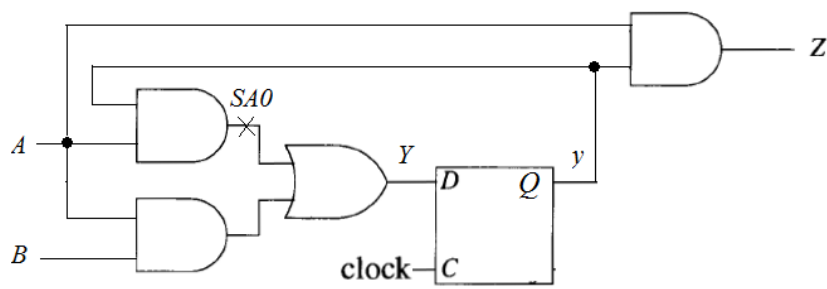

FIG. 2A
- 2A. Find the test vector for SA0 fault shown in **FIG. 2A** using ITG